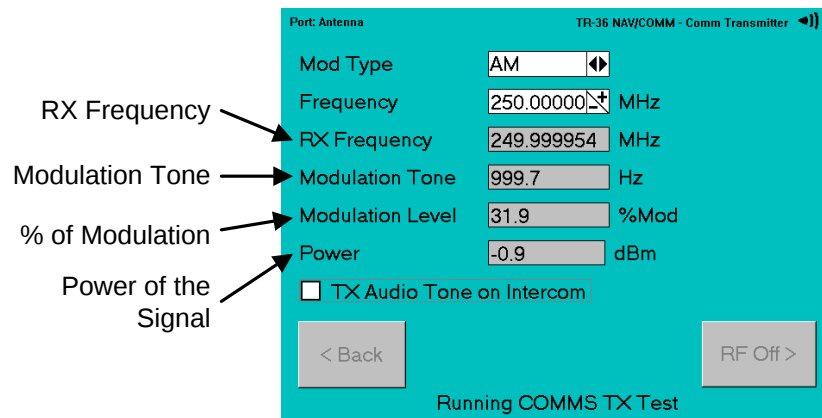

Figure 2-53. AM Received Results
6. The Test Set will measure the following parameters (Figure 2-53):